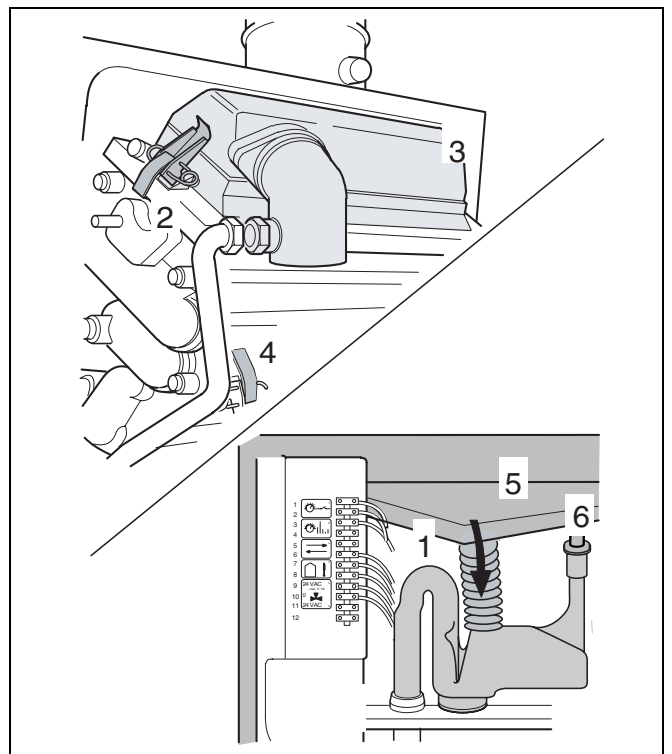

fig. 45 Removing the cover and condensate plate
- Loosen both retaining clamps (fig. 45, item 2) of the burner cover and remove the burner cover and burner (fig. 45, item 3).
- Pull the syphon away from the condensate plate (fig. 45, item 1).
- Loosen the connection to the condensate water bypass (fig. 45, item 6).
- Loosen the retaining clamps (fig. 45, item 4) of the condensate plate and remove the condensate plate (fig. 45, item 5).